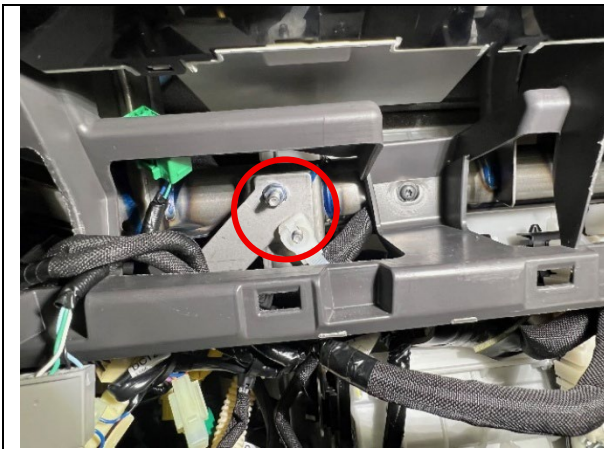
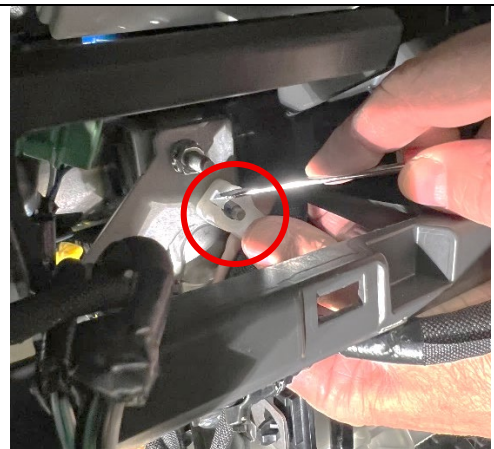

Figure 12
Figure 13
16. Locate the H98 and H99 connector bracket nuts. (See Figure 12.) Unclip the white harness clamp from the bottom nut/stud by pushing up on the tab with a small screwdriver and pulling the clamp outward. (See Figure 13.)